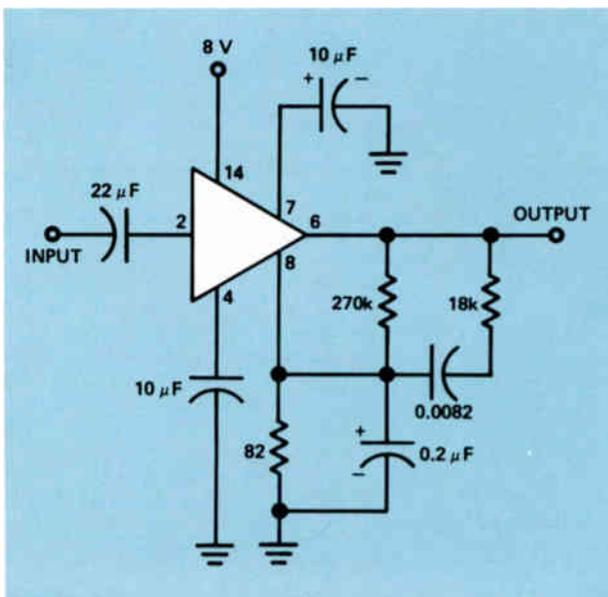

Figure 4. An IC low-frequency amplifier.
Integrated circuits are also used as low-frequency voltage amplifiers. A typical circuit is shown in Fig.4. This circuit is actually the input circuit of one channel of a stereo tape player. The input circuit for the other channel is contained in the same IC.
You might not expect an amplifier such as shown in Fig.4 to have a very high gain because it shows only one block for the IC. However, there is no way of telling what is inside the integrated circuit. Usually there will be a number of stages connected in cascade so that the amplifier normally has considerable gain. Most often amplifiers of this type have a gain of 100 or more.
Figure 8 is a schematic diagram of one-half of an IC that contains two operational amplifiers. The other half consists of another operational amplifier that is identical to the one shown. The diodes  $D_1$  through  $D_4$  are used to help maintain a constant input voltage to the input transistors,  $Q_1$  and  $Q_2$ .  $D_5$  and  $D_6$  are used to help maintain a constant base voltage to the two constant-current sources,  $Q_3$  and  $Q_6$ . Notice that the input to  $Q_1$  is the noninverting input, and the input to  $Q_2$  is the inverting input. The output from  $Q_1$  connects directly to  $Q_4$  and the output from  $Q_2$  connects directly to  $Q_5$ . The output from  $Q_5$  connects directly to the combination of  $Q_7$  and  $Q_8$ , which form an emitter-follower. This type of amplifier has considerable gain and could be used as an amplifier in a stereo system, as shown in Fig. 4. The amplifier we have shown will be used in one channel, while the other identical amplifier in the IC is used for the other channel.
- 4 In the circuit shown in Fig.4, if the voltage applied to terminal 14 is normal, you have an input signal voltage on terminal 2 and all other parts check good, yet there is no output on terminal 6, what should you do?